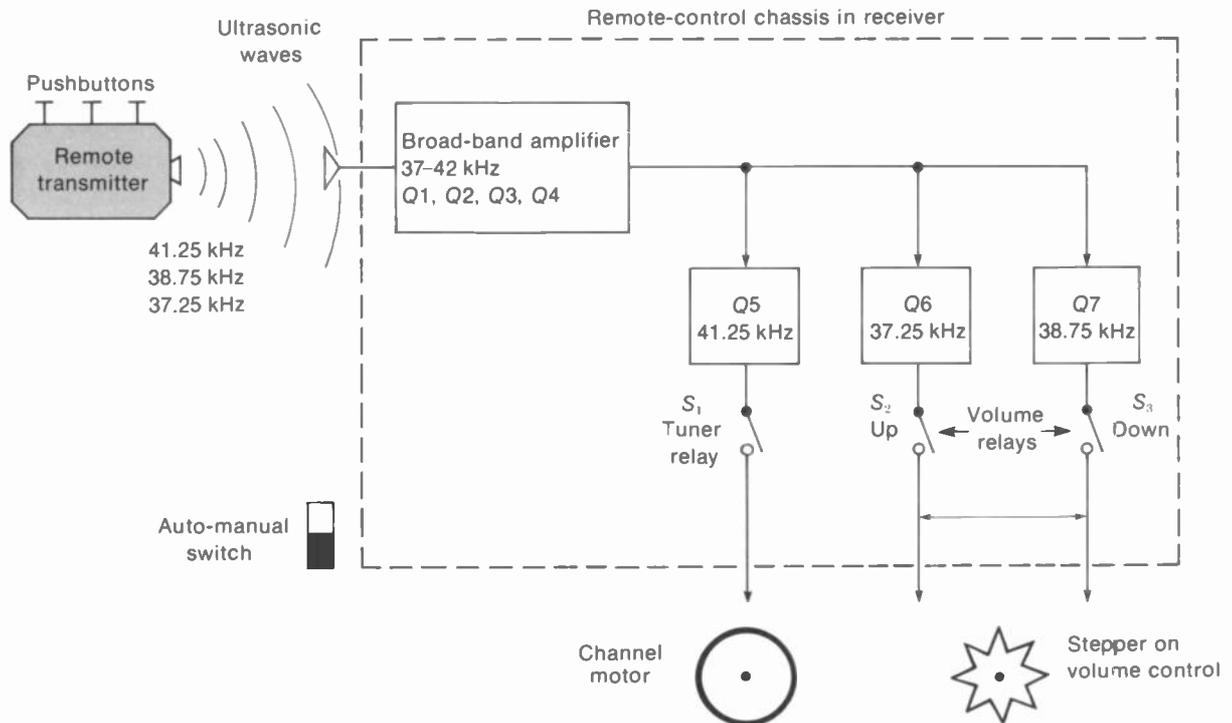

FIGURE 24-32 REMOTE CONTROL FOR THREE RECEIVER FUNCTIONS.
channels, varying the volume, and turning the set on and off. The ultrasonic system in Fig. 24-32 is generally used. A small hand-held remote transmitter, or "clicker," radiates sound waves at frequencies around 40 kHz. These frequencies are too high for the human ear to hear, but the waves of compression and rarefaction through the air operate the microphone at the receiver.
**Control frequencies and functions.** There are no standard values, but the frequencies in Fig. 24-32 are typical. The main functions are:
**Control chassis.** This unit is a small separate subchassis. Referring to Fig. 24-32, the output of the microphone is amplified in a high-gain, broad-band amplifier with four transistors. The amplified output is then fed to a parallel bank of driver stages tuned to the control frequency for each function.
12. Wireless remote control of the receiver is generally done with the ultrasonic system shown in Fig. 24-32. The operating frequencies are around 40 kHz.